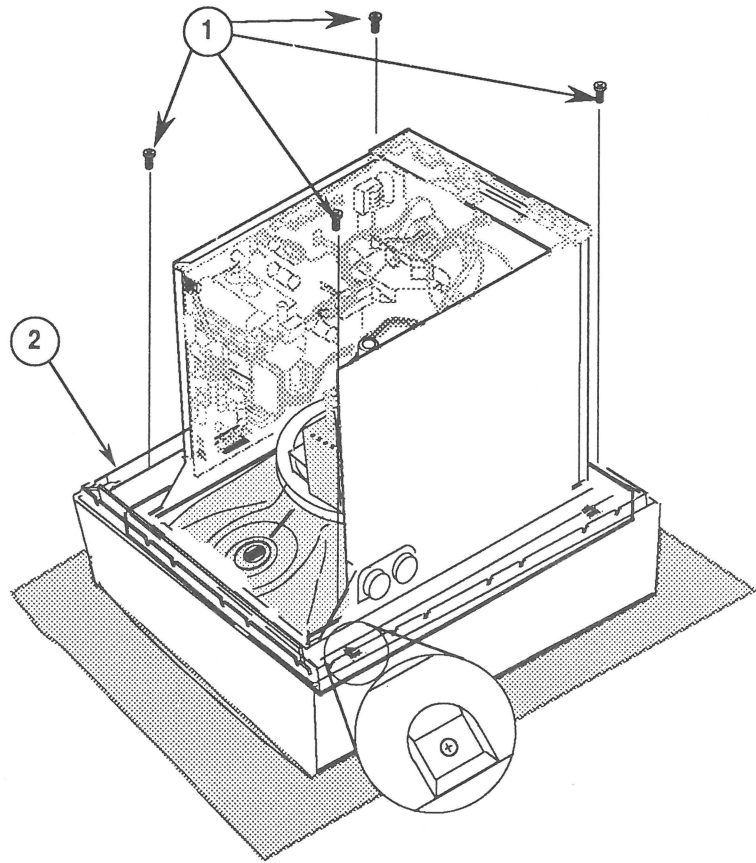

FIGURE 44
5. Remove the four screws (Figure 44, #1) that secure the bezel (Figure 44, #2) to the chassis.
3. Replace the four bezel mounting screws (Figure 44, #1).